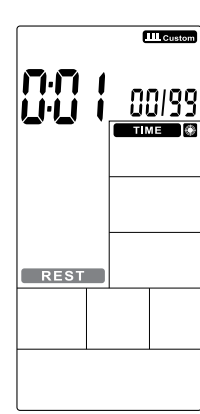

Figure 34
- ③ The TIME continues lighting up, **REST** will flash, press UP/DOWN to set rest time 0:01~9:59 circularly (Figure 34). Press ENTER to confirm along with buzzer beeps 1s and **INTERVAL CUSTOM** continues lighting up.